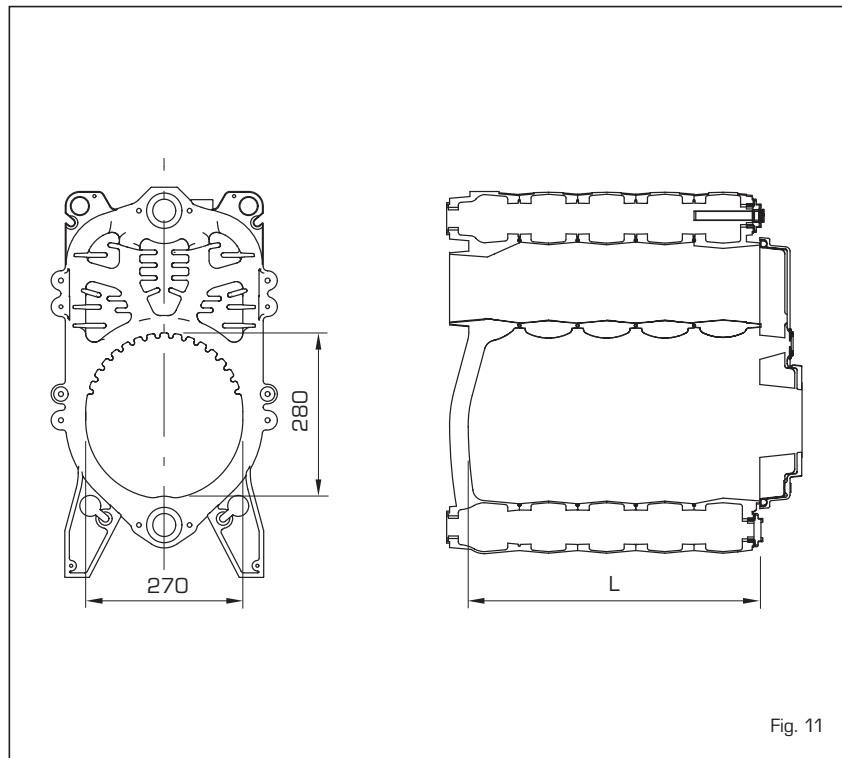

Fig. 11
3.1 COMBUSTION CHAMBER DIMENSIONS (fig. 11)
The dimensions are shown in fig. 11.